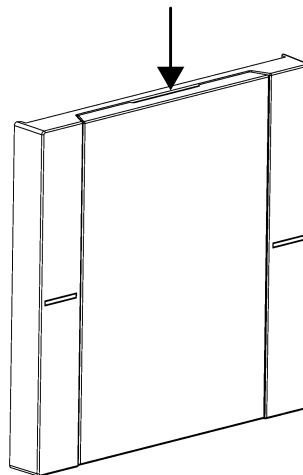

Figure 9: Feel for a notch in the labelling field cover
- Search for a notch in the cover of the labelling field by feeling with a finger (Figure 9).